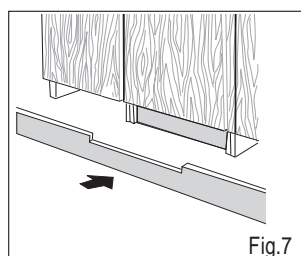

Fig.7
5. Install the base moulding again (Fig.7).